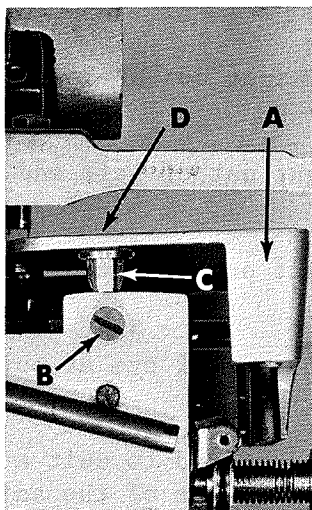

Fig. 4
**CAUTION!** When removing the cloth plate (A, Fig. 4) loosen the cloth plate stud locking screw (B) and lift up cloth plate with the cloth plate stud (C) and cloth plate screw (D) assembled.